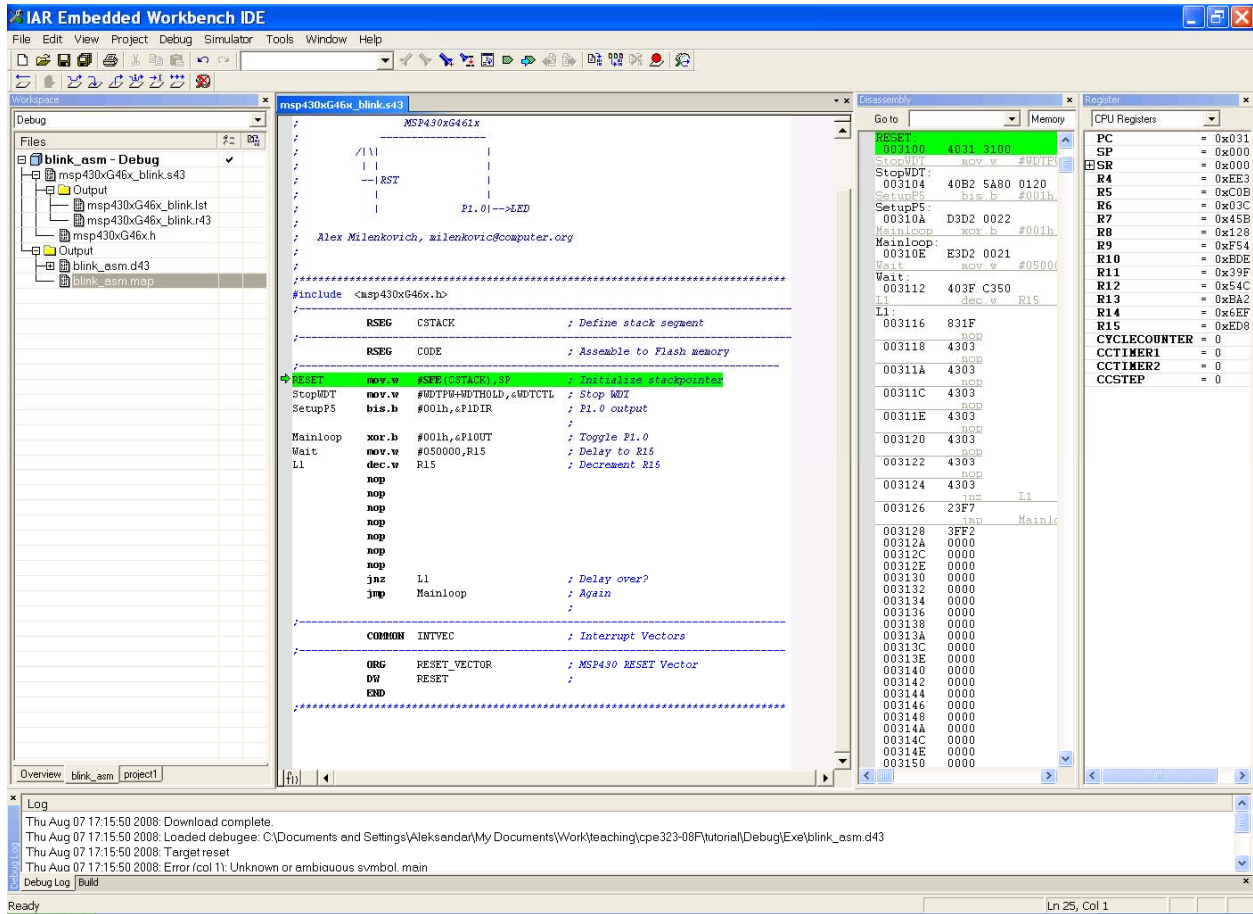

Figure 5. IAR Simulator.
Step 2: Choose Project>Debug. Ignore warning. You will see the EW display as shown in Figure 5.